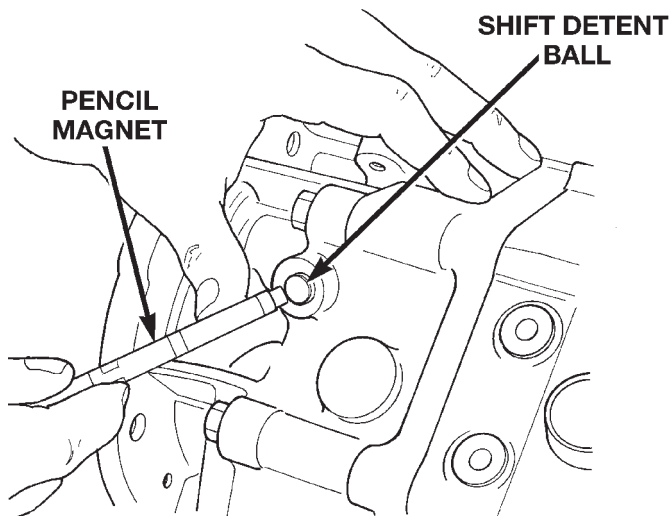

Fig. 44 Install Detent Ball
(16) Install shift detent ball in detent opening of case (Fig. 44).